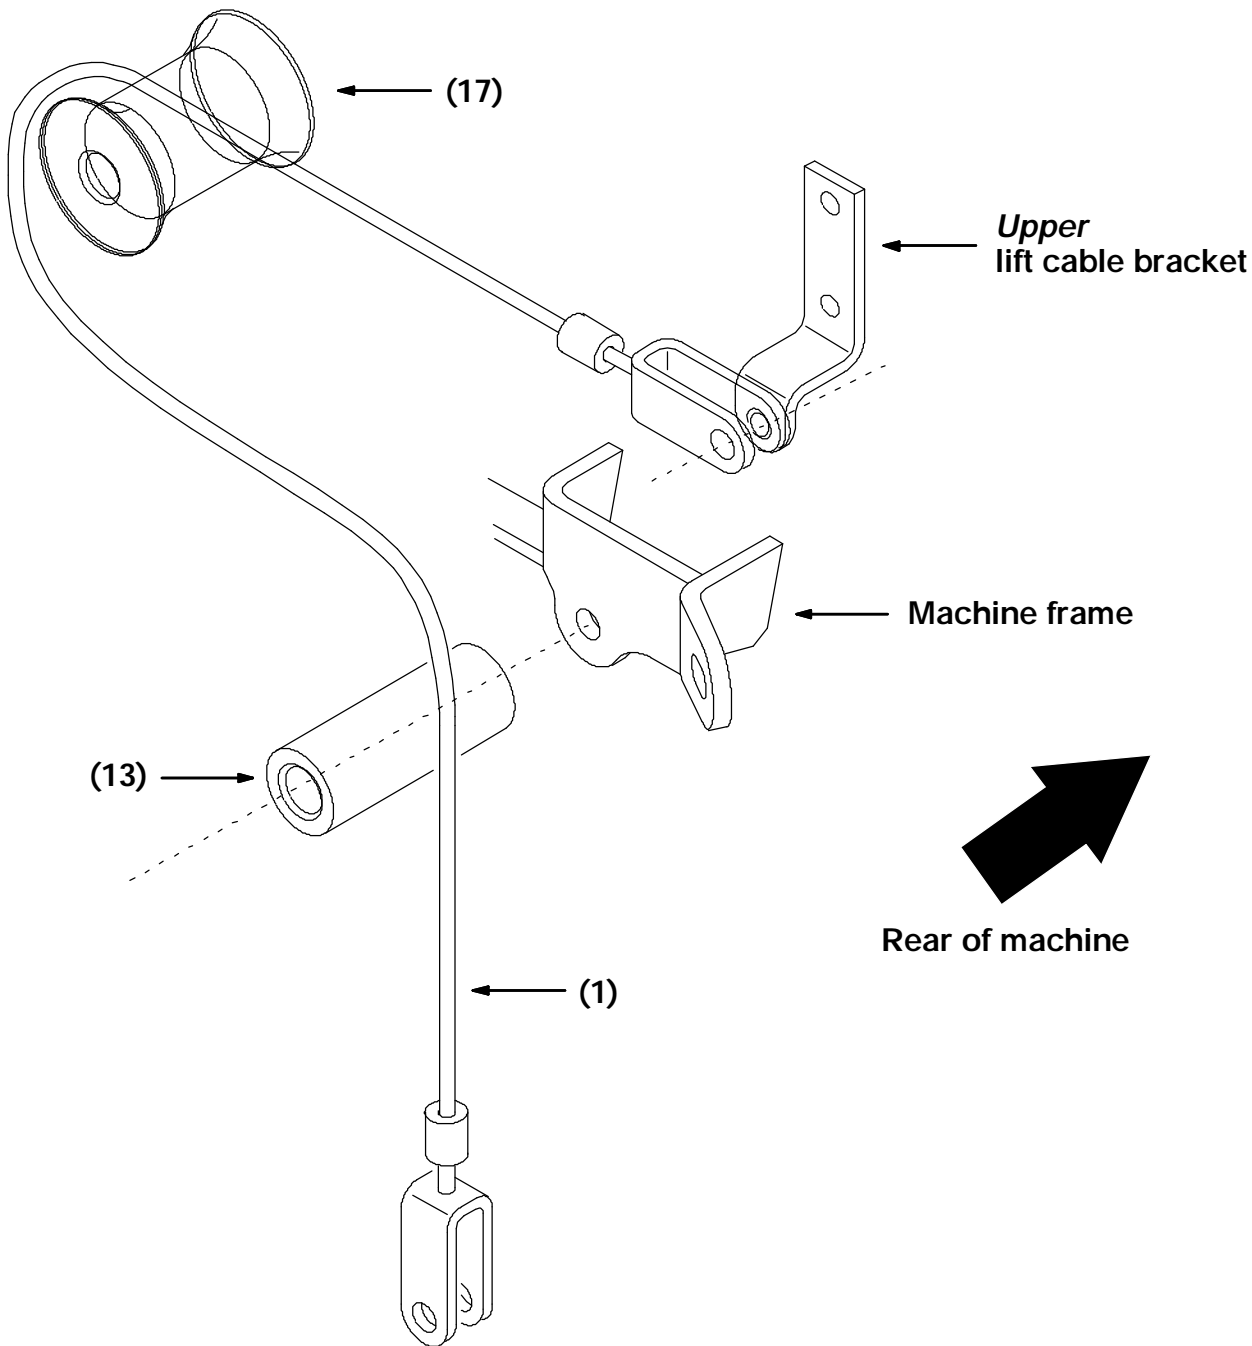

FIG. 6 – Lift Cable Assembly
15. Install one end of the new lift cable (1) to the upper lift cable bracket using one clevis pin (2), one flat washer (3), and the hair pin (4). (Refer to Fig. 6)
16. Route the lift cable (1) over the top of the roller (17) in the lower bellcrank (7). (Refer to Fig. 6)
18. Attach the this end of the lift cable (1) to the squeegee frame using one clevis pin (2), one flat washer (3), and the cotter pin (5). (Refer to Fig. 6 and 7)